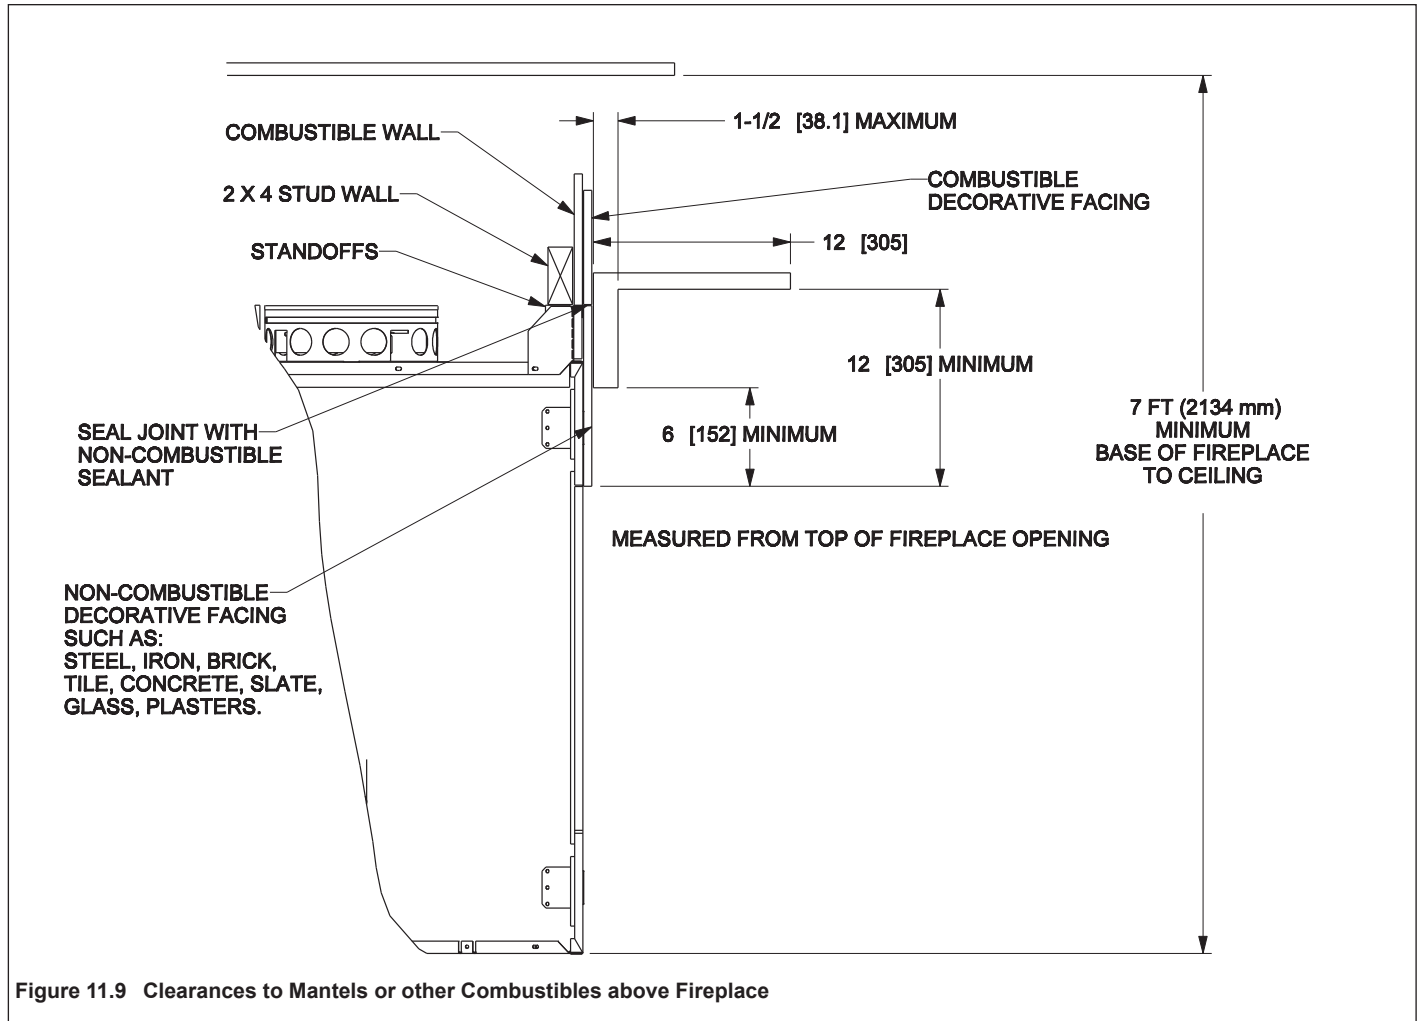

**Figure 11.9 Decorative Facing**
- Refer to shaded areas of Figure 11.9 for the location and dimensions of a combustible mantel.